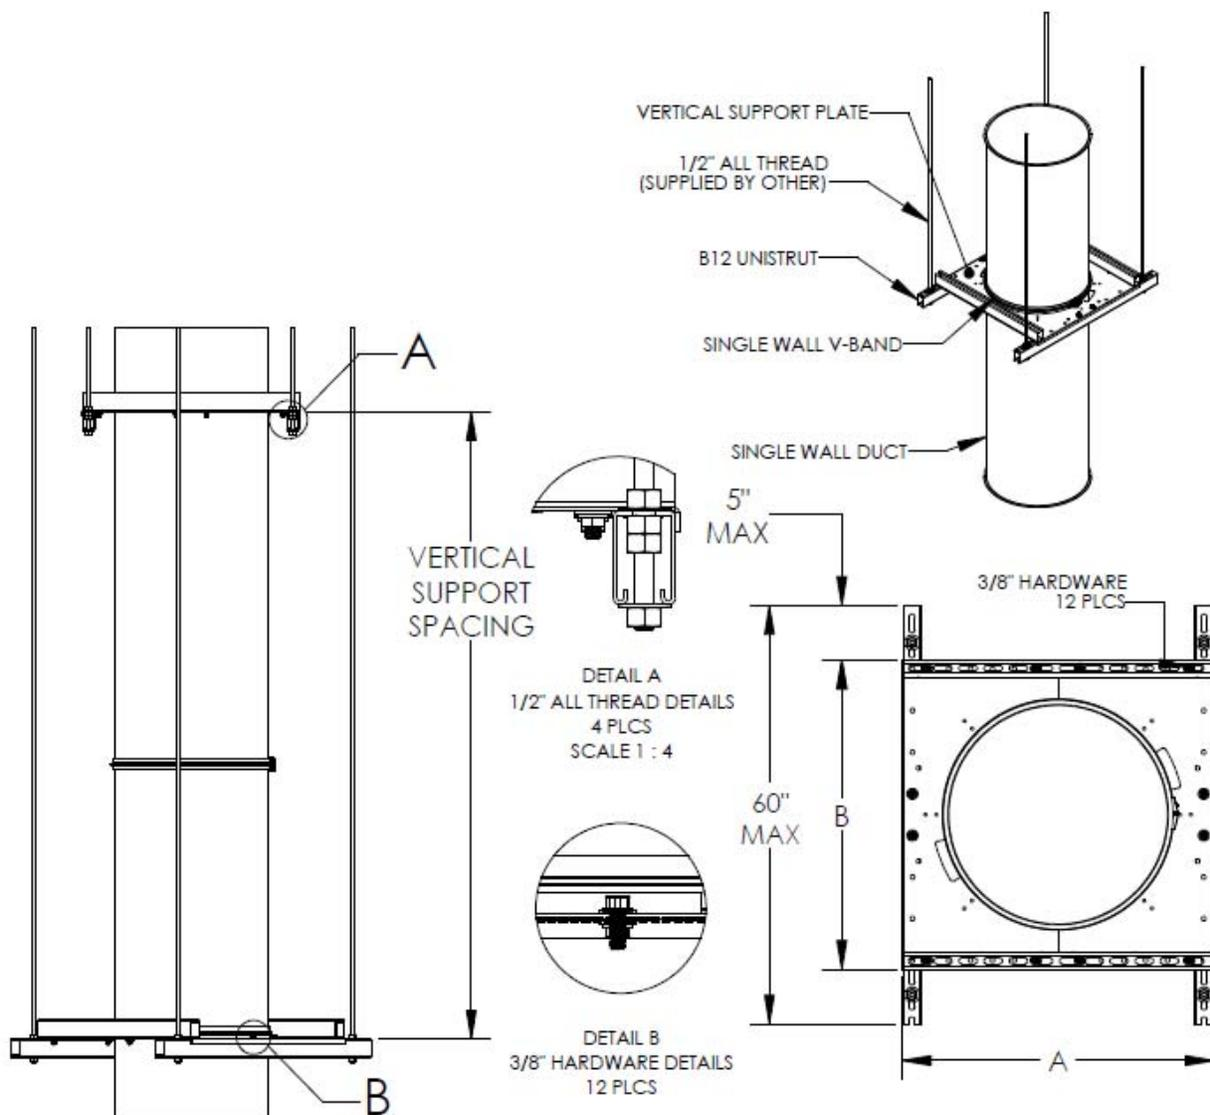

Figure 6. Ceiling Vertical Support Assembly
D. FLOOR/CEILING VERTICAL SUPPORT ASSEMBLY – Use the floor or ceiling support assembly (refer to Figures 6 and 7) supplied by the duct manufacturer and consisting of two 12 GA galvanized steel vertical support half-plates and
B12 Unistrut sections. Also use 1/2 in. steel threaded rod hangars for ceiling support assembly as shown in Figure 6. Assemble the supports as shown in Figures 6 and 7 using supplied 3/8 in. hardware. Ensure the max.